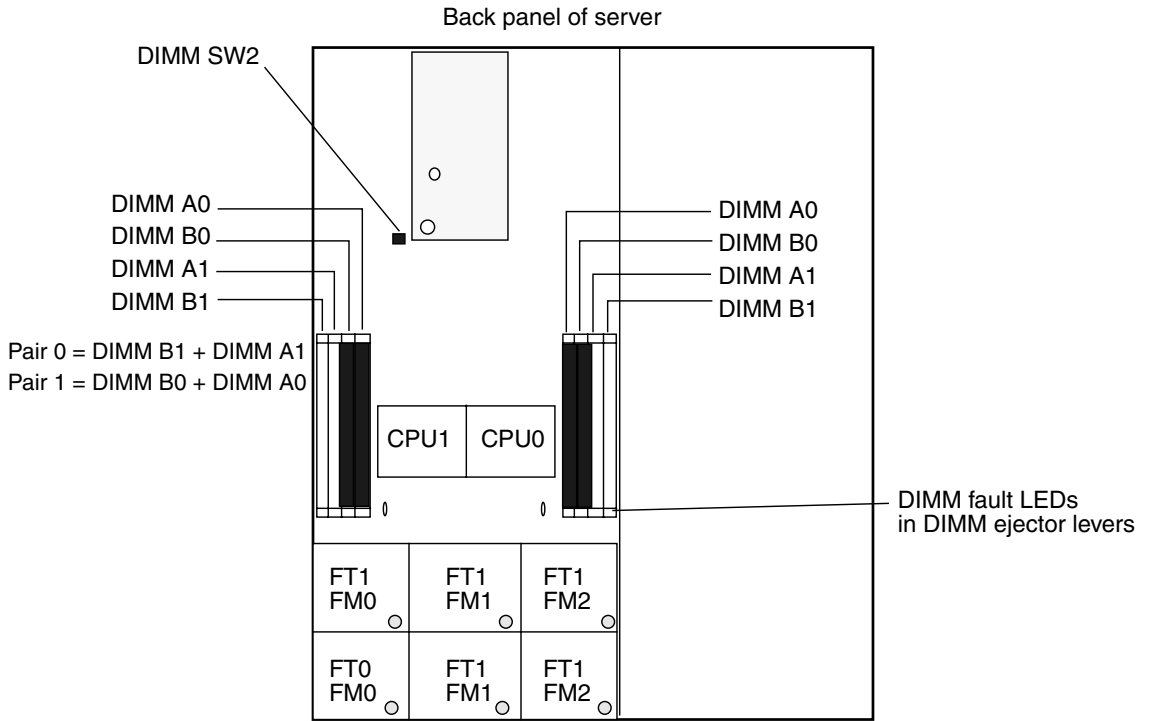

FIGURE 1-5 Sun Fire X4100 M2 and Sun Fire X4200 M2 DIMM Slot Locations
- For the Sun Fire X4100/X4200 M2 servers, you can view the DIMM fault LEDs without the power cords attached. These LEDs can be lit by a capacitor on the motherboard for up to one minute. To light the DIMM fault LEDs from the capacitor, push the small button on the motherboard labeled “DIMM SW2.” See FIGURE 1-5.
FIGURE 1-5 shows the numbering of the Sun Fire X4100/X4200 M2 DIMM slots.